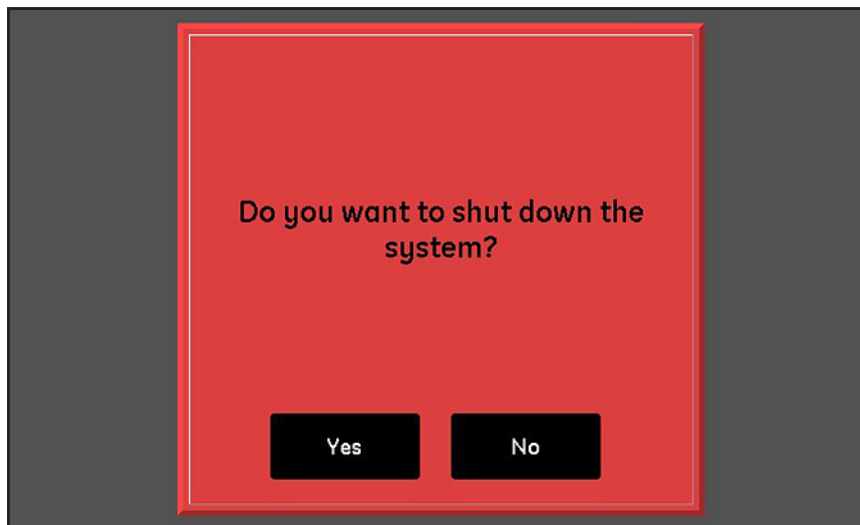

**Figure 30: Restart Confirmation Screen**
3. At the confirmation screen shown in *Figure 30* below, tap the **Yes** button to restart the unit or tap the **No** button to cancel the request.
To restart (i.e., reboot) the moisture.IQ system, tap the **Restart** button. Then, tap either **Yes** or **No** at a confirmation screen similar to the one shown in *Figure 30* on page 35.